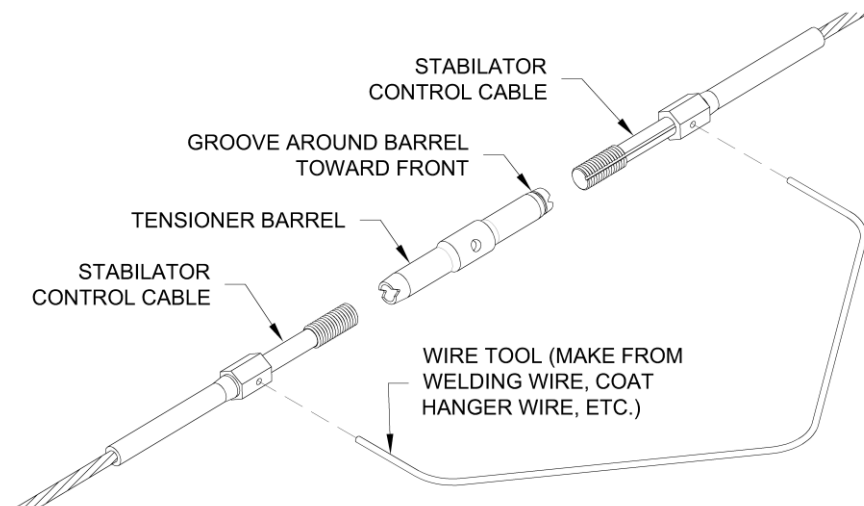

Figure 18: Tensioner barrel removal
3. Loosen the tension of the stabilator cables by turning the tensioner barrel as shown in **Figure 18**.